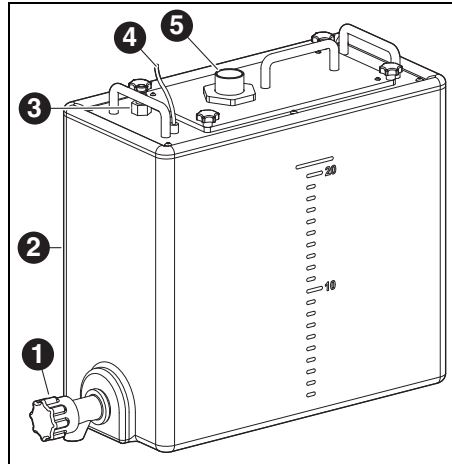

Fig. 3 Connections of the supply unit
- ▷ Connect the control cable to the control interface for the supply unit on the rear side of the milling machine ([9] in Fig. 2) and to the supply unit ([4] in Fig. 3).